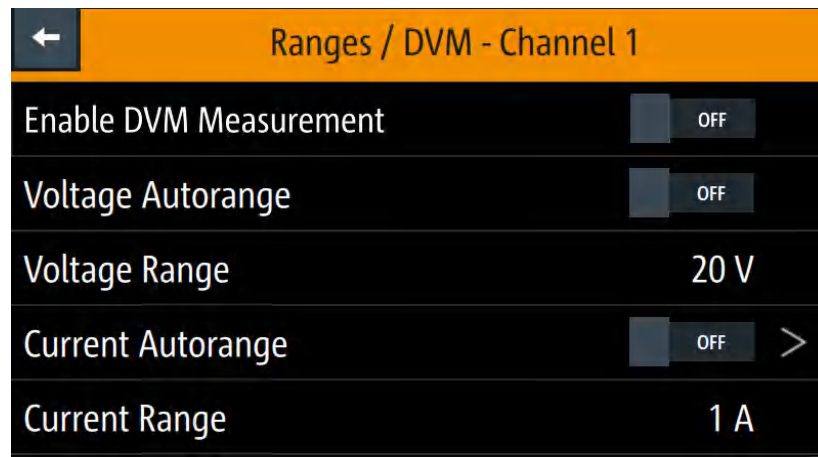

Figure 6-14: Ranges / DVM dialog
1. Select "Current Autorange" from Figure 6-14.